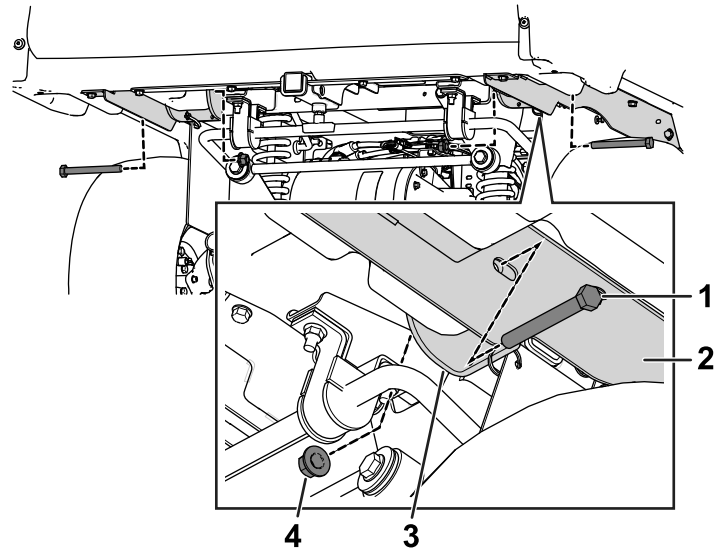

Figure 6
7. Carefully lower the cargo bed until the holes in the pivot brackets align with the mounting holes in the cargo bed supports (Figure 6).
8. Use 2 bolts (1/2 x 4-1/2 inches) and 2 flange nuts to secure the right and left cargo bed supports to the pivot brackets (Figure 6).